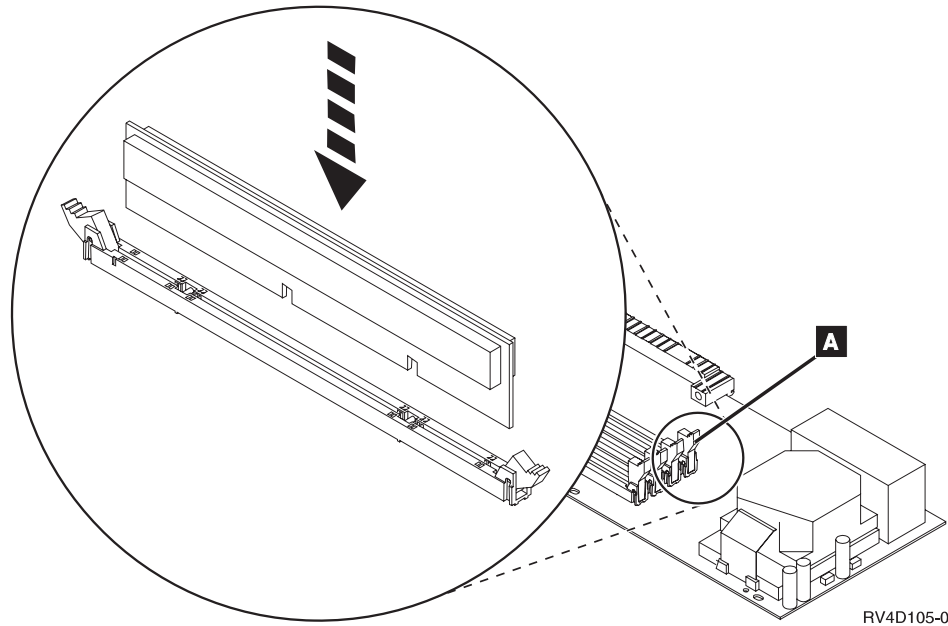

Figure 6. Location of Memory on Server Card
- Note:** Figure 6 on page 15 **A** shows the location of the first storage card.
- Align the memory cards with the next available connector on the 285x or 2866 Server card, (Figure 6 on page 15).